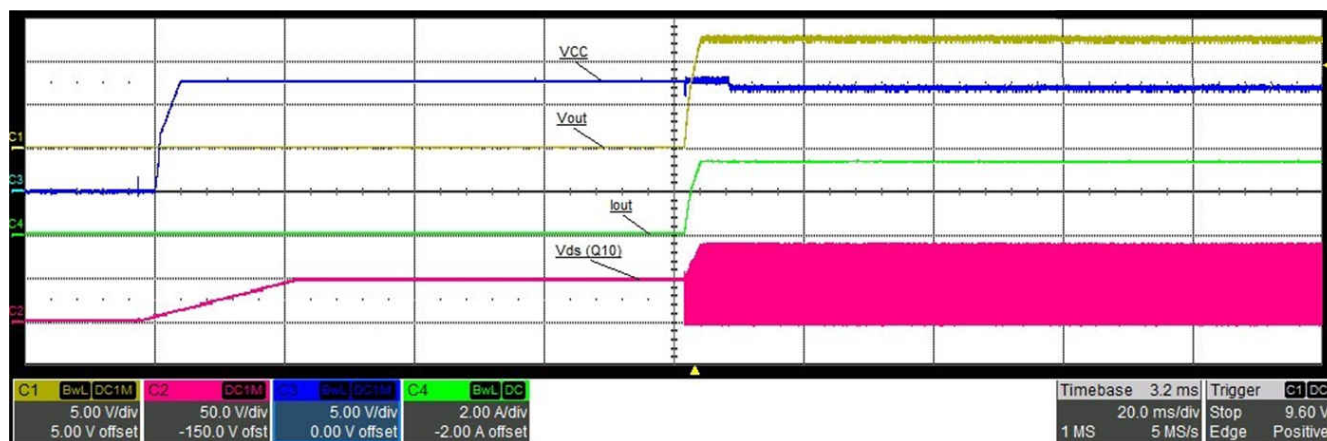

Figure 2-1. PoE Start-up
This section provides basic measurement techniques that make a big difference in debugging. First, it is valuable to use oscilloscope probe labels, if possible. Label each waveform in the picture, so that when it is captured it is clear what is being measured. If there are particular test points used by the oscilloscope probe, put that in parentheses. Second, use the graph marks for offsets. As Figure 2-1 shows, C1 (yellow) is 5 V/div and is offset by +5 V, C2 is 50 V/div and is offset by -150 V. Because of these results, it is apparent that C2 never goes above 100 V. If C2 was offset by -67.5 V, it would be difficult to determine the peak-to-peak voltage at a glance. It is obvious that C2 is the drain-to-source voltage of Q10 because of the oscilloscope probe label.
1. Figure 2-1 shows a successful start-up sequence. First VCC rises (blue), and then Vout, Iout and Vds begin to switch. This picture shows a successful start-up and a few time stamps of successful normal operation. Ensure scope shots show the entire sequence, but the individual parts can still be seen.